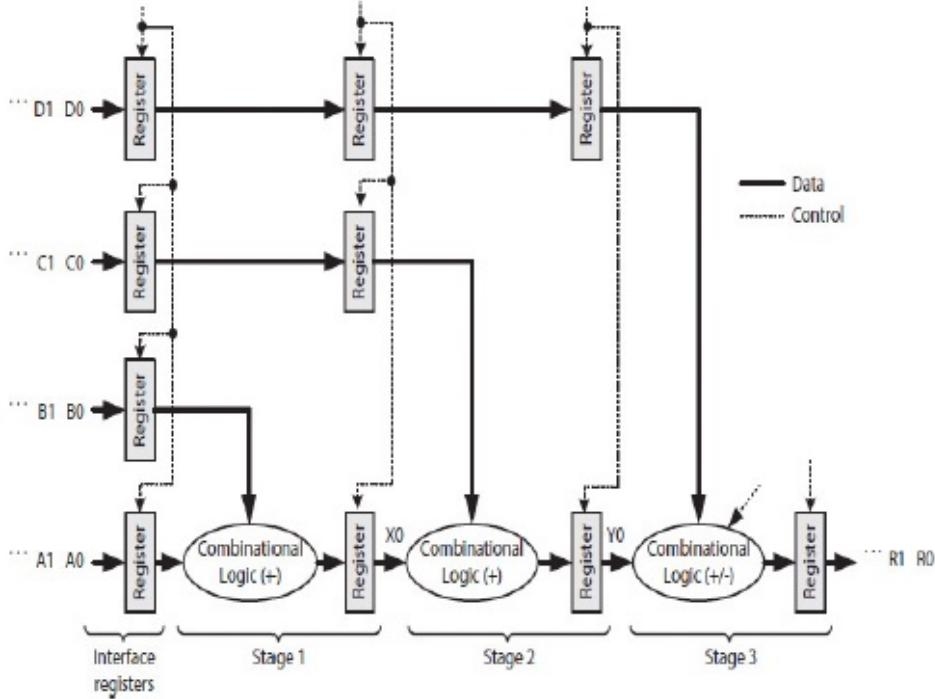

FIGURE 6.4 A two-function pipelined data path computing a stream of quantities $A_i + B_i + C_i \pm D_i$ for $i = 0, 1, 2, \dots$
c. Pipelined data path in Fig. 6.4.